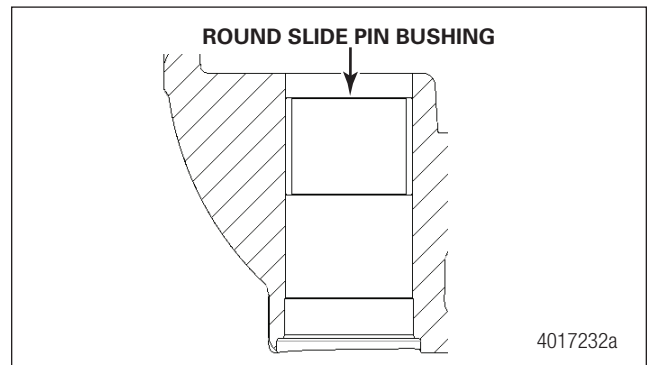

Figure 8.9 Round Slide Pin Bushing
2. Insert the bushing into the housing bore from the slide pin boot retainer side of the bore. Figure 8.9.